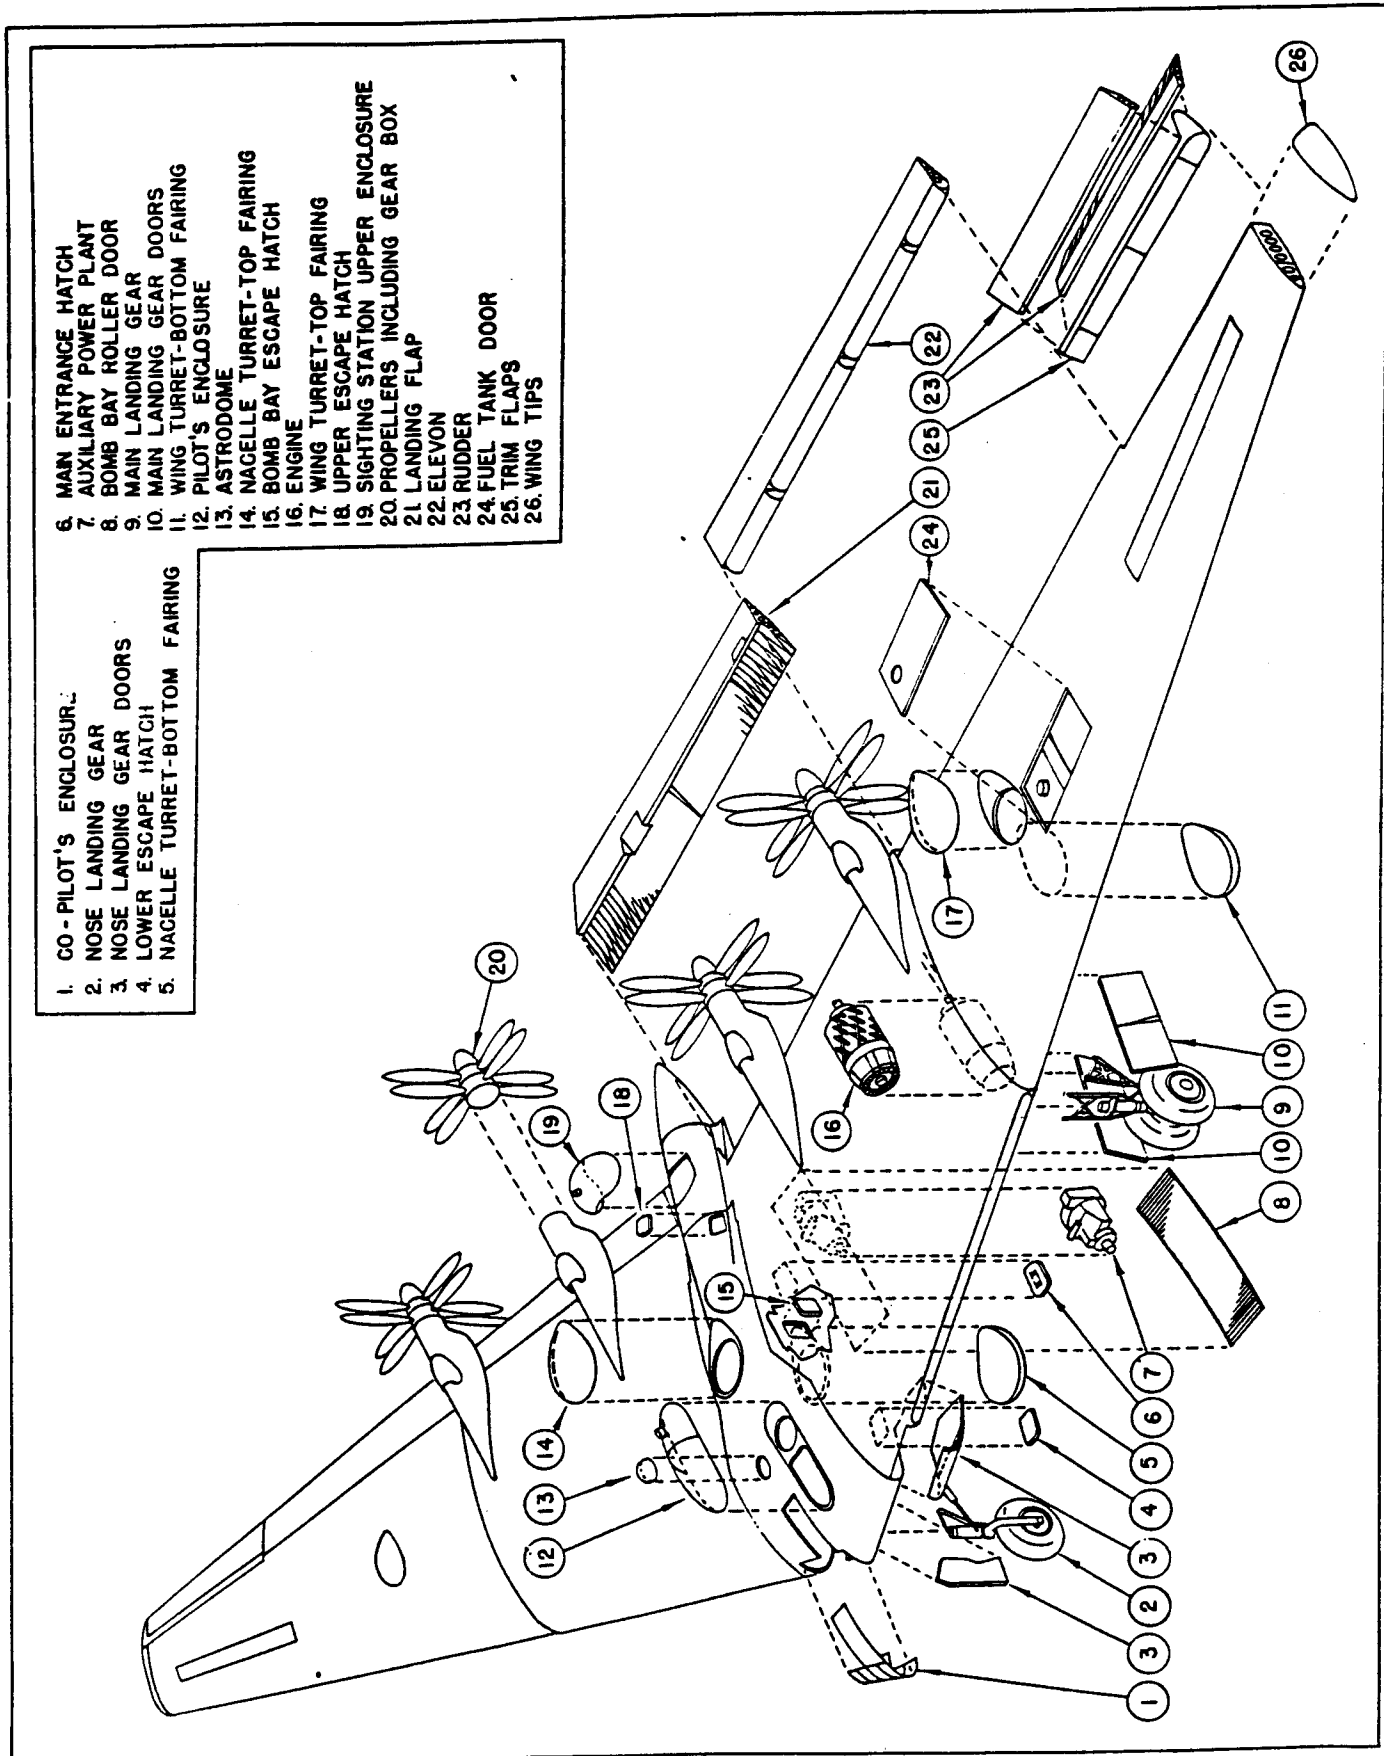

Figure 4. Major Assembly Breakdown
(1) **LOCATION OF JACKING POINTS.**- The airplane is provided with seven jacking points; one immediately aft of the nose gear, four on the front spar, and two on the rear spar. See figure 4.
(2) JACKING INSTRUCTIONS.